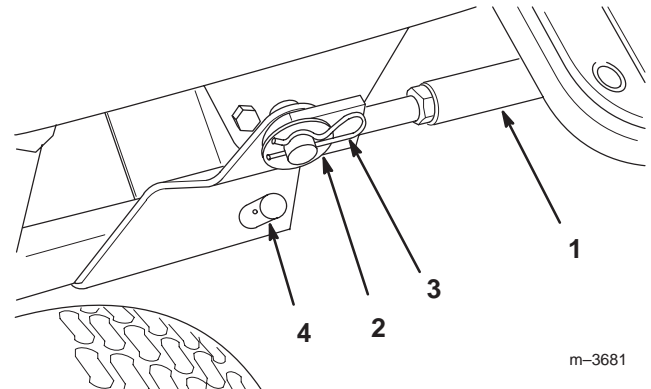

Figure 22
- Secure the other ends of the support braces to the frame rods protruding from the mid Attach-A-Matic hitch with a 15/16 in. (24 mm) washer and a large hairpin cotter (Fig. 22).
- Slide the crank support onto the mounting post on the left-hand side of the tractor (Fig. 22).